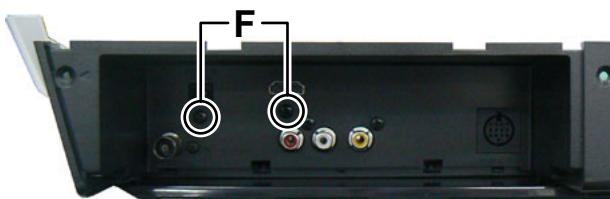

Fig.7
### 3.1.5 Removing the DVD MPEG board (See Fig.7, 8)
- (1) Remove the two screws **F** attaching the DVD MPEG board. (See Fig.7)